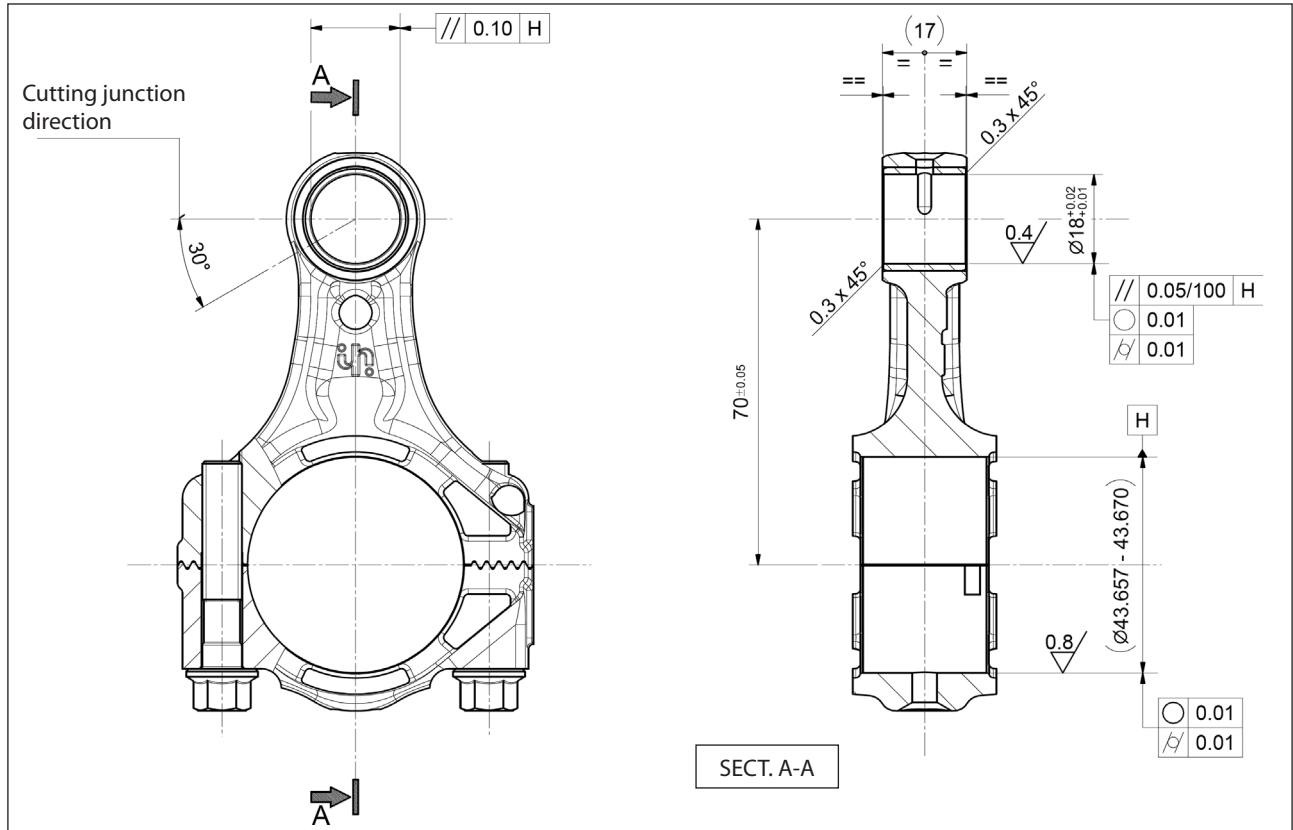

Fig. 35
- the cutting junction is directed as shown in Fig. 35.
Then perform mechanical processing. The dimensions and tolerances shown in Fig. 35 must be respected.